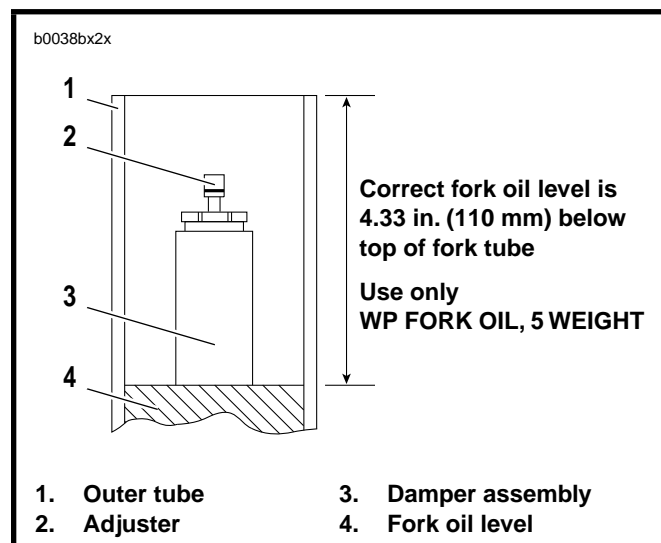

Figure 1-36. Correct Fork Oil Level
6. Measure distance from fork oil surface to top of tube using PRO-LEVEL OIL GAUGE (Part No. B-59000A). Add or drain fork oil as needed until distance from top of fork tube to oil surface measures 4.33 in. (110 mm). See Figure 1-36.